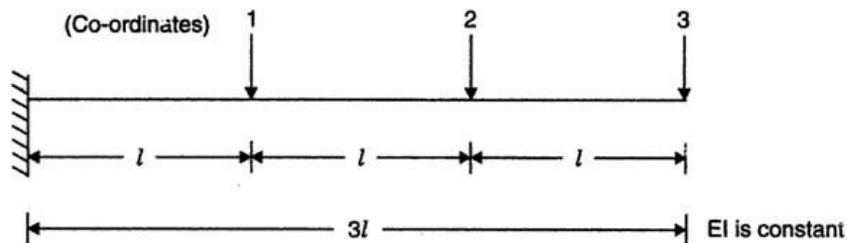

Figure 2.3
3. Develop the flexibility matrix for the cantilever with coordinates as shown in Figure 2.3